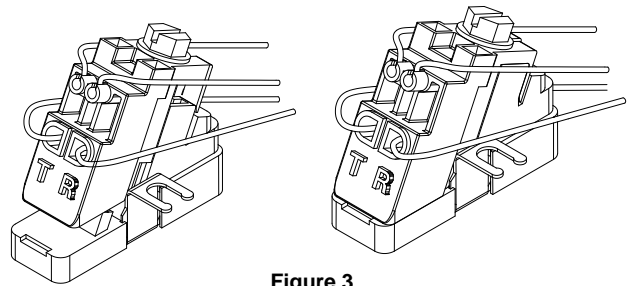

Figure 3
- While holding the subscriber bridge conductors into the station protector driver, turn the driver bolt clockwise and return the driver to the "down" position (Do not overtighten.) Pull lightly on the subscriber conductors to verify connection (Figure 3).
- Using a 216 tool to raise the driver bolt of the station protector until it spins freely, indicating that the driver is in the "up" position (Figure 3).
- Insert the c.o. wire pair into the two large bottom ports of the protector (Figure 3) until fully seated.
- While holding the c.o. wires into the station protector driver, turn the driver bolt clockwise and return the driver to the "down" position (Figure 3). (Do not overtighten.)